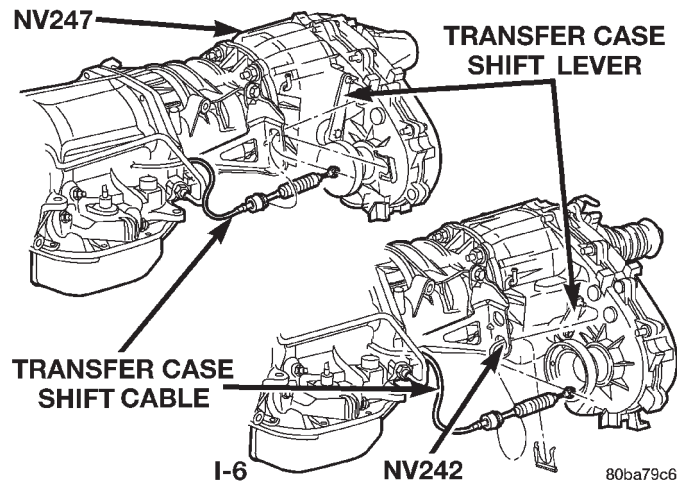

Fig. 18 Transfer Case Shift Cable
(13) Disconnect transfer case shift cable from the transfer case shift lever (Fig. 18).
(14) Remove the clip securing the transfer case shift cable into the cable support bracket.